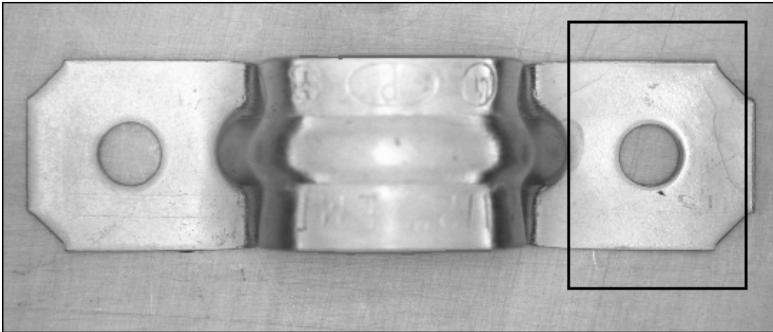

Figure 4-4. Selecting the Second Search Area
22. With the **Rectangle Tool**, draw an ROI around the right side of the bracket, as shown in Figure 4-4. Vision Assistant automatically locates the template in the region bound by the rectangle and displays the score and location of the match.